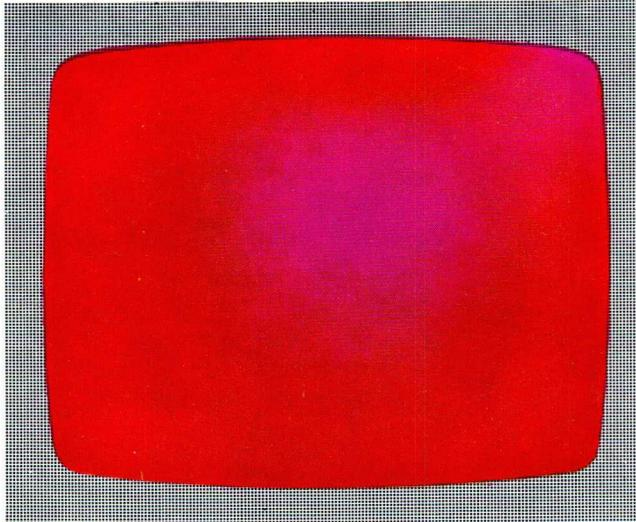

Fig. VII-6. Typical purity error
2. ● Check the purity of red (this pattern offers the advantage that the green and blue guns need not be switched off). Larger convergence errors may have an effect on this check. Fig. VII-6 shows a purity error.